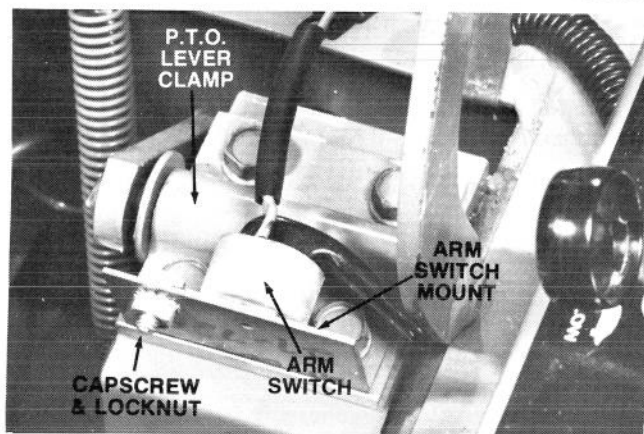

Figure 6
3. Move control lever to engaged position, assemble the arm switch to the arm switch mount, remove the two (2) rear mounting capscrews for the P.T.O. lever clamp and install the arm switch and mount on top of the clamp (Fig. 6). Move lever to disengaged position.